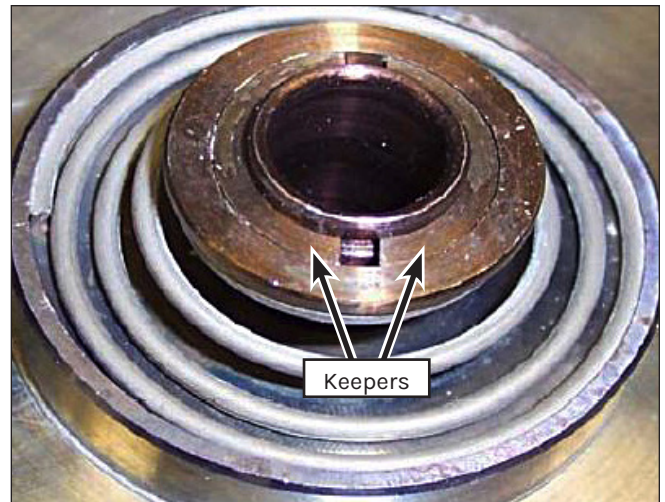

Figure 124: Installing the Keepers.
2. Position the valve spring and valve spring retainer into place on the suction valve. Press down on the spring retainer to insert the keepers (Figure 124).